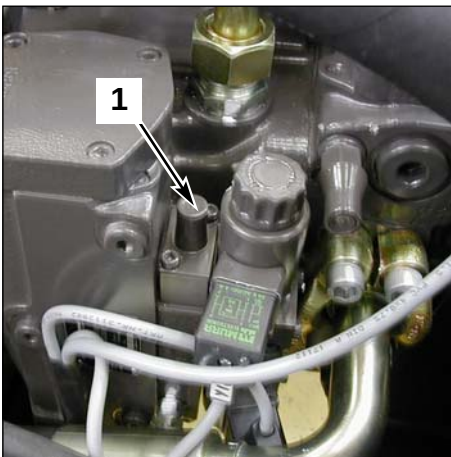

Fig. 2 Transfer movement pump
- 4- If the manometer reading indicates a sharp rise between the transfer of position from brake / Inching, loosen the screw (1 fig. 2).